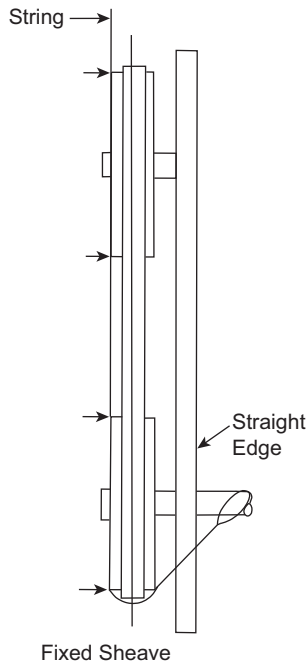

Fig. 95 — Sheave Alignment
1. To check the location of the fixed sheaves on the shafts, use a straightedge or a piece of string. If the sheaves are properly aligned, the string will touch them at the points indicated by the arrows in Fig. 95. Rotate each sheave a half revolution to determine whether the sheave is wobbly or the drive shaft is bent. Correct any misalignment.